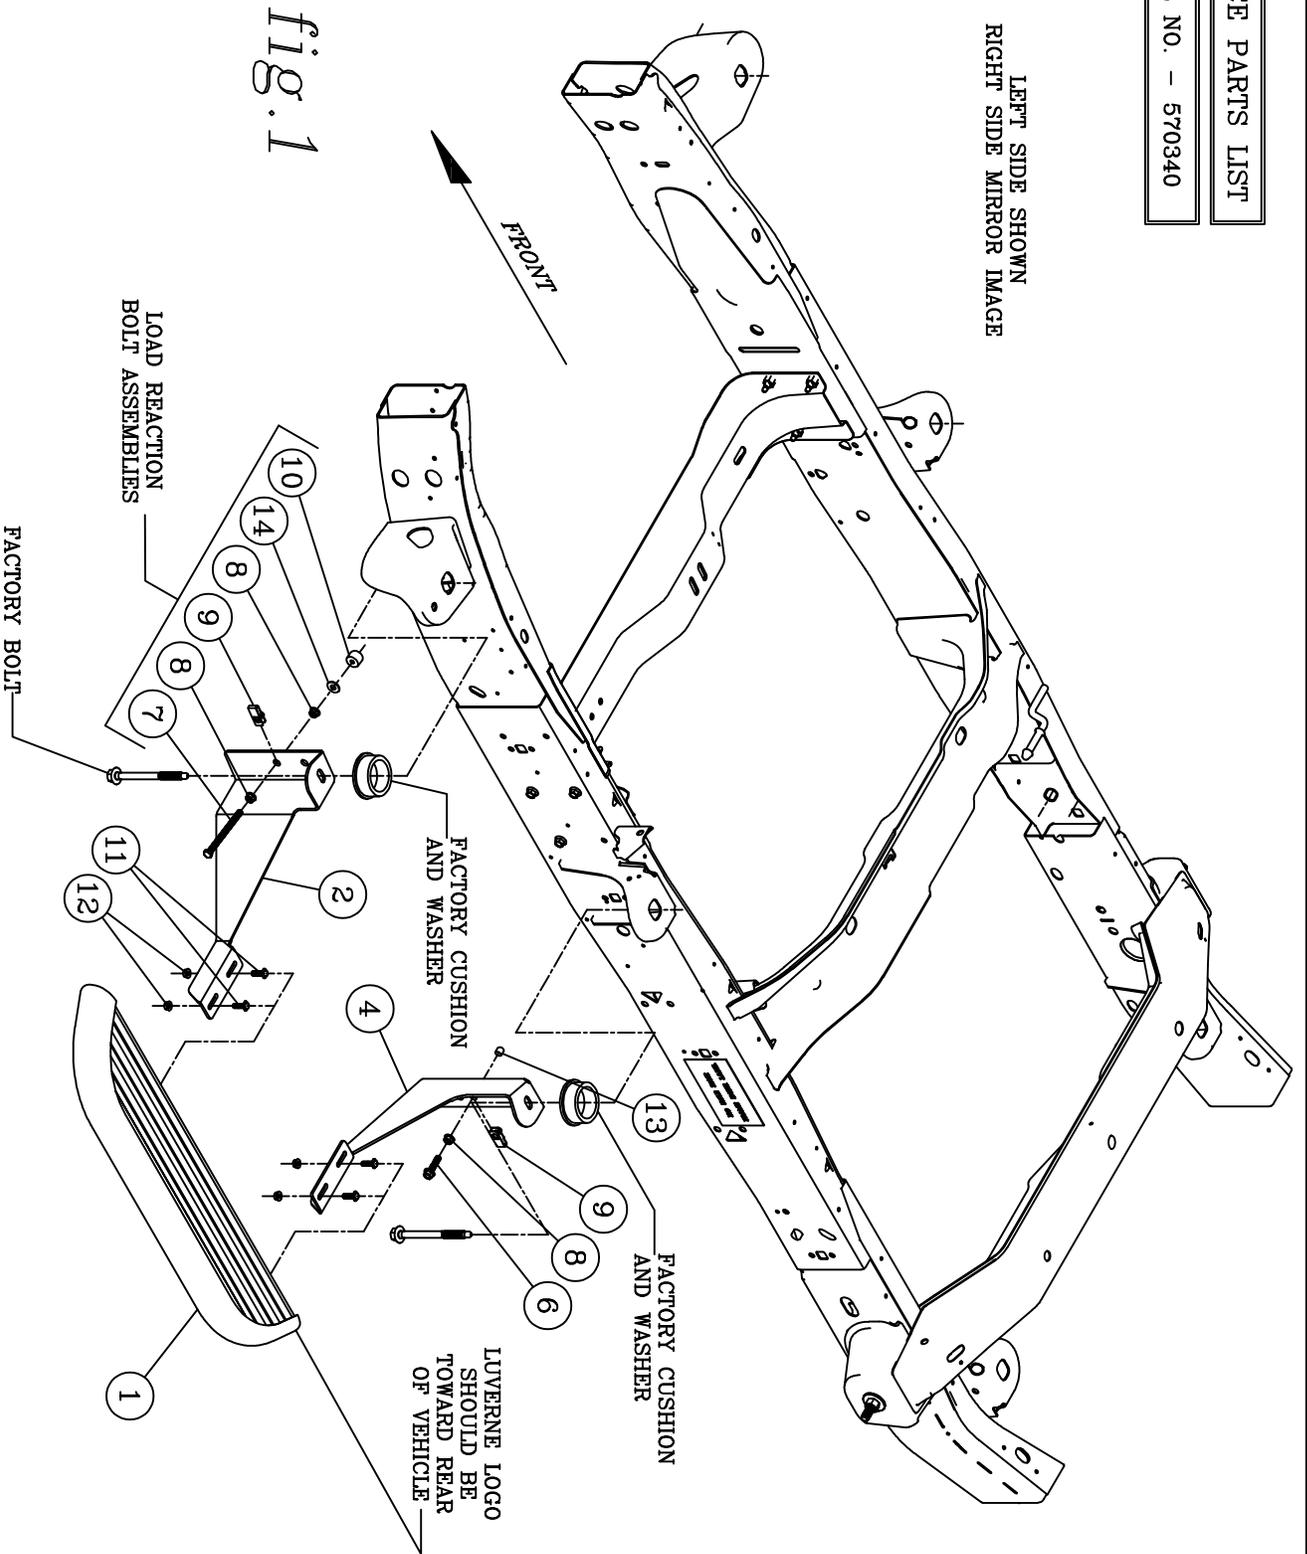

fig. 1
2. INSTALL THE MULTI-THREAD U-NUT (ITEM #14) ON THE FRONT MOUNTING BRACKET (ITEM #2&3) AND ASSEMBLE THE 3/8"-16 X 5 BOLT (ITEM #7), 3/8"-16 SERRATED FLANGE NUTS (ITEM #8) INTO THE U-NUT (ITEM #14) AND PUT THE 3/8"-16 SERRATED FLANGE NUTS(ITEM #8), WSHR-FL,SST, .438X1.00X.083(ITEM # 13) AND .354 X 1.00 X .748 RUBBER WASHER (ITEM #10) (**LOAD REACTION BOLT ASSEMBLY**) AS SHOWN IN *fig. 1*.
5. INSTALL THE MULTI-THREAD U-NUT (ITEM #14) ON THE SECOND MOUNTING BRACKET (ITEM #4&5) (**USE THE TOP HOLE ON 1500 VANS AND THE BOTTOM HOLE ON 2500 & 3500 VANS**) AND ASSEMBLE THE 3/8"-16 X 1-1/4" SCREW (ITEM #10) AND 3/8"-16 SERRATED FLANGE NUT (ITEM #13) INTO THE U-NUT (ITEM #14) AND PUT THE 3/8"-16 SERRATED FLANGE NUTS(ITEM #8), WSHR-FL,SST, .438X1.00X.083(ITEM # 13) AND CP PLUGS-.364X.625 (ITEM #12) (**LOAD REACTION BOLT ASSEMBLY**) AS SHOWN IN *fig. 1*.